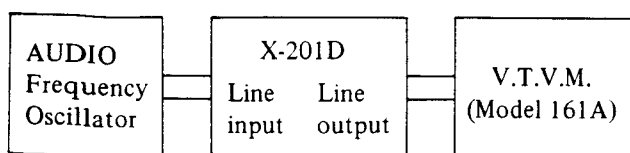

Fig. 12
- 1) As shown in Fig. 12, connect an Audio Oscillator and Attenuator to the Line Input. Connect a High-sensitivity V.T.V.M. to the Line Output.